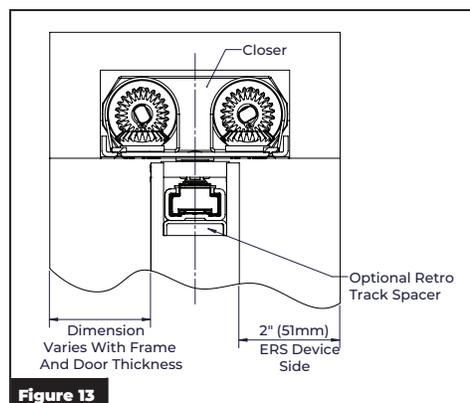

Figure 13
6. Open latch and sweep valves to allow door to close and observe door and frame alignment. If door is not resting against emergency stop release device when closed, reopen door and use 5/16" hex wrench to rotate slider centering hub until door comes to rest against ERS device. (Figure 13)